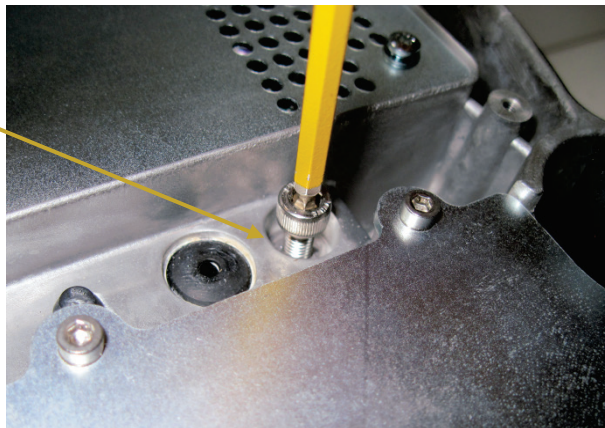

Figure 87 Instrument inlet purge port securing bolt
8. Screw one of the right-angled connectors supplied into the inlet port and tighten using the pliers (Figure 87).